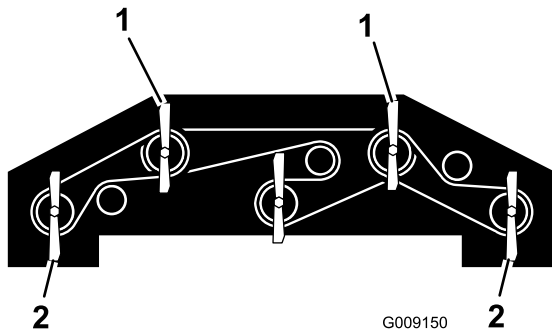

Figure 126
1. Rotate each blade so that they point straight forward (Figure 126).